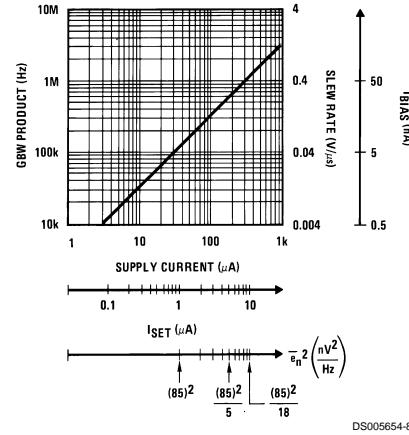

FIGURE 3. LM146 Typical Characteristics
**Isolation Between Amplifiers:** The LM146 die is isothermally layed out such that crosstalk between *all* 4 amplifiers is in excess of -105 dB (DC). Optimum isolation (better than -110 dB) occurs between amplifiers A and D, B and C; that is, if amplifier A dissipates power on its output stage, amplifier D is the one which will be affected the least, and vice versa. Same argument holds for amplifiers B and C.
**LM146 Typical Performance Summary:** The LM146 typical behaviour is shown in Figure 3. The device is fully predictable. As the set current,  $I_{SET}$ , increases, the speed, the bias current, and the supply current increase while the noise